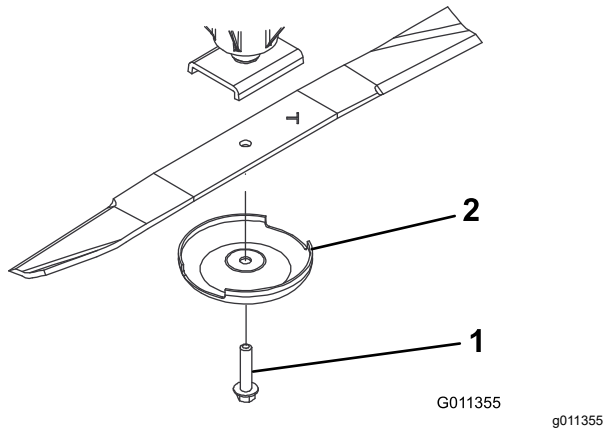

Figure 126
3. Remove the blade bolt, anti-scalp cup, and blade from the spindle shaft (Figure 126).